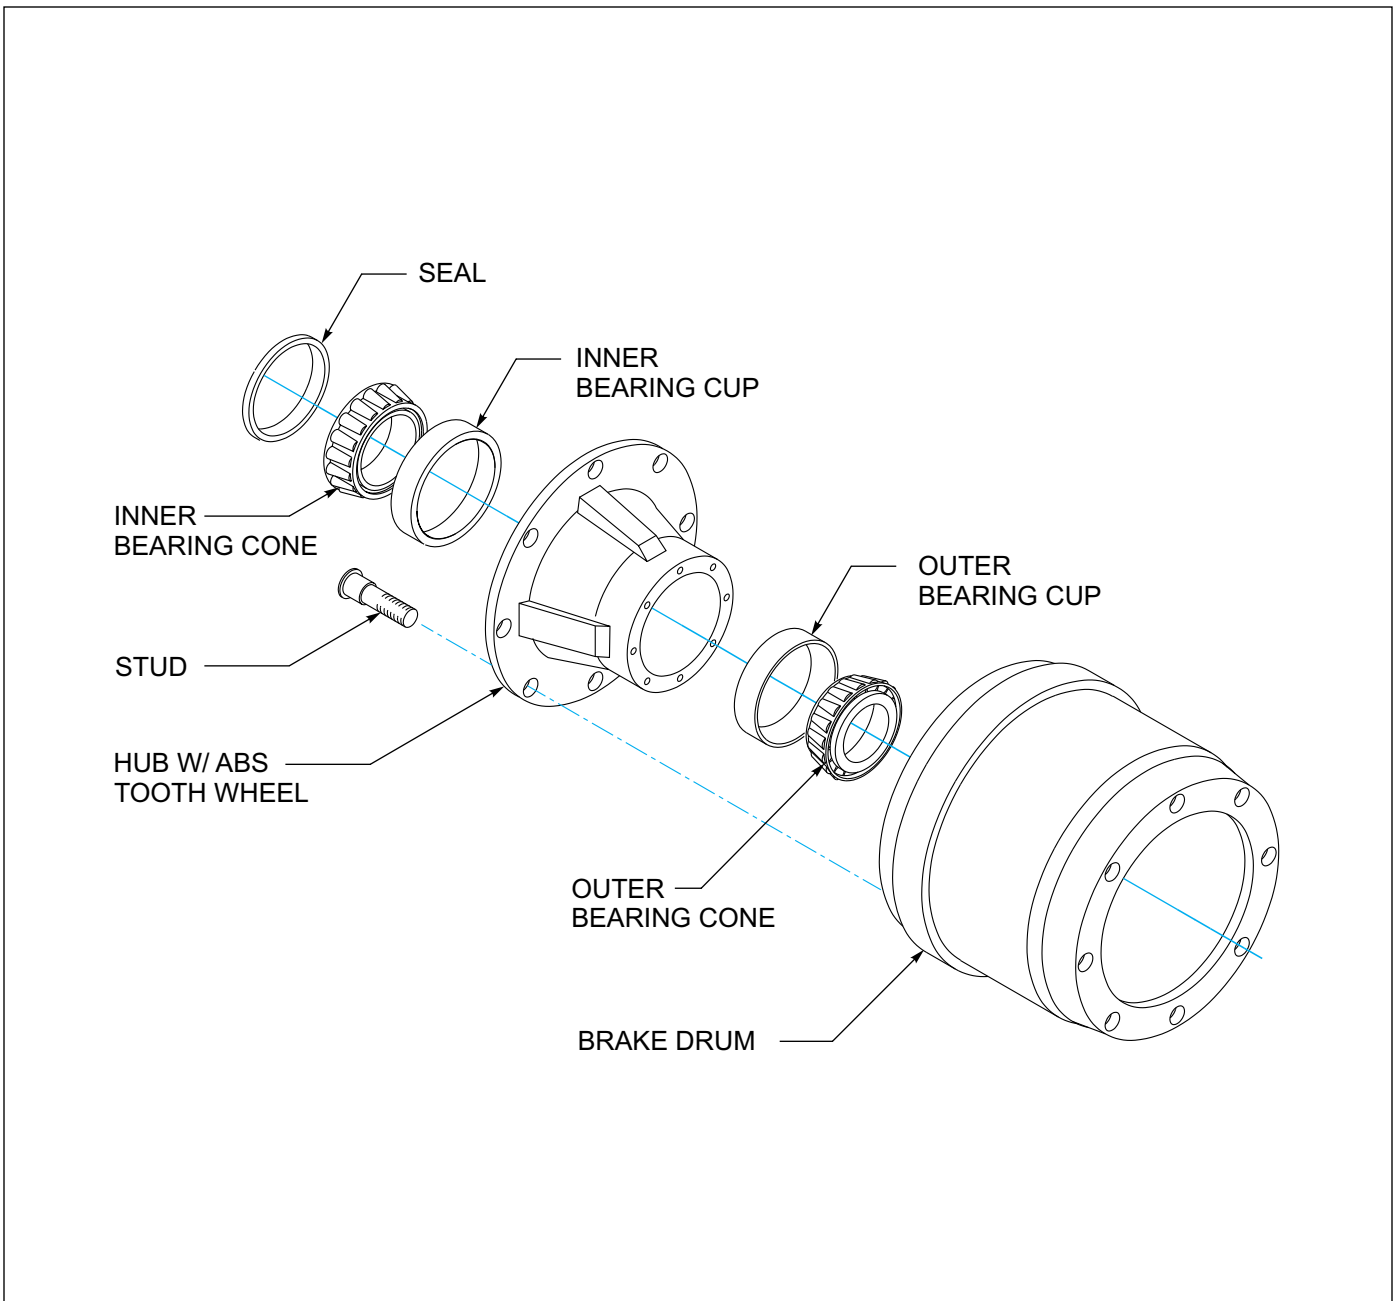

Figure 4-18: Outboard Mount Hub and Drum
4. Replace the hub and drum as follows: **(See Figure 4-18)**
- i. Place the drum over the hub and brake shoes being careful not to damage the threads on the studs **(See Figure 4-18.)** Make sure the drum seats flat against the hub flange and mates properly with the hub pilot. There should be no interference between the brake drum pilot chamfer and the corner radius on the hub. If interference exists, the hub will not be able to function properly.
- k. If studs are marked "R" or "L", right hand ® hubs should be installed on the curbside of the vehicle, left hand (L) hubs should be installed on the driver side.